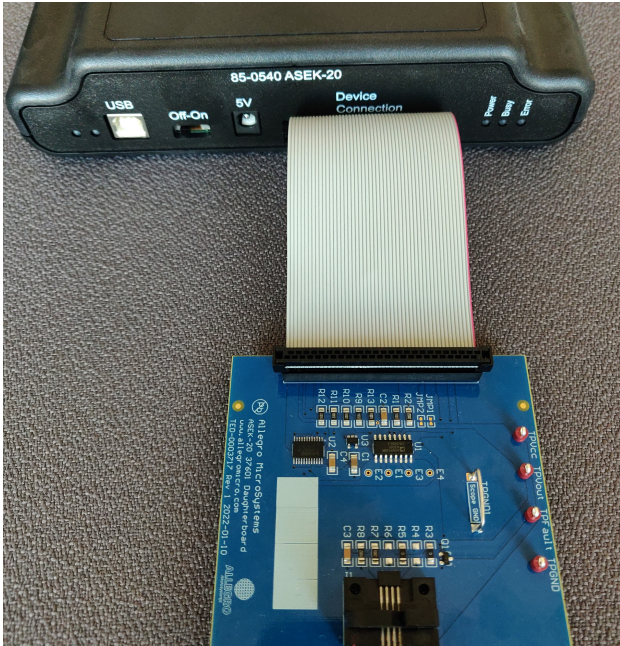

Figure 5: Connection between ASEK-20 and ASEK37601
3. Connect the other end of the ribbon cable to the “Device Connection” port on the ASEK-20 chassis as shown in Figure 5.